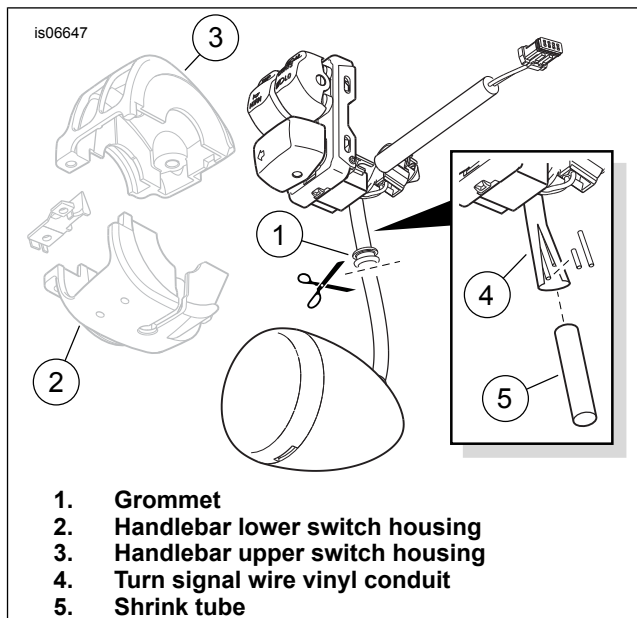

Figure 1. Cut Turn Signal From Switch Assembly
1. See Figure 1. Cut the turn signal wires and conduit flush with the grommet (1) on the underside of the handlebar lower switch housing (2).
2. Separate the upper (3) and lower switch housings per service manual instructions.
3. Remove the grommet from the end of the turn signal wire vinyl conduit (4) still connected to the switch housing.
5. Slip the two-inch (50.8 mm) long section of encapsulating (dual wall) shrink tube (5) over the conduit and wires.